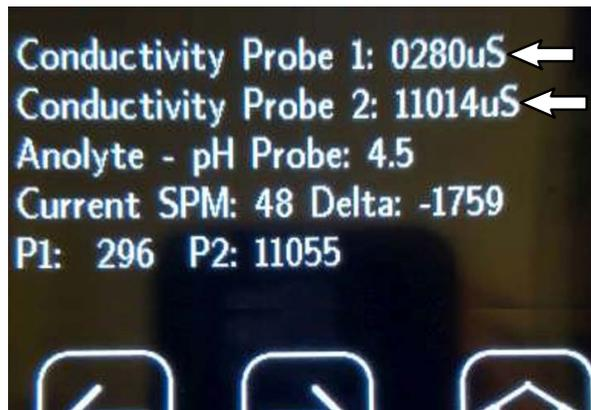

FIG. 8
C. Conductivity Probe 1: uS (Fig. 8)
D. Conductivity Probe 2: uS (Fig. 8)